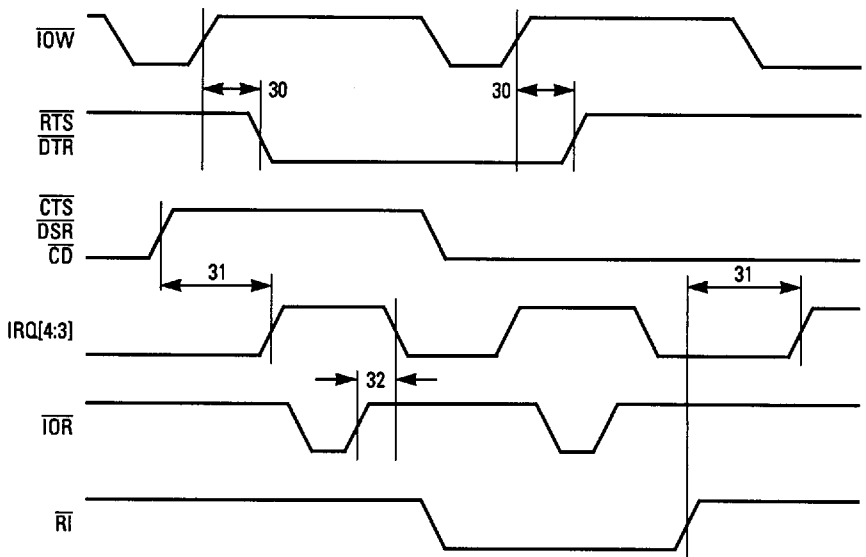

Figure 5.6
- Figure 5.6, "EPP Write Cycle"